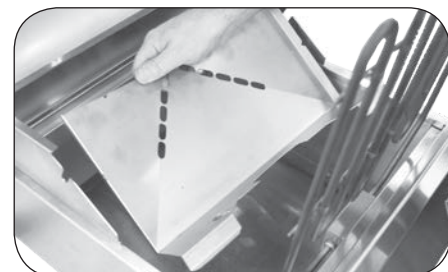

Fig. 20-5 Remove front liner
6. Move the front liner slightly toward the back of the grill, then lift up and out (Fig. 20-5).